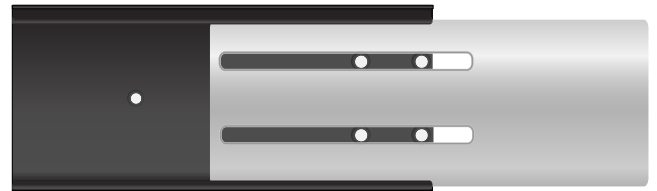

Figure 2.1f
7. Before securing the rear rail extension to the back of your rack, make sure to slide the extension into the rail as seen in **Figure 2.1f**.